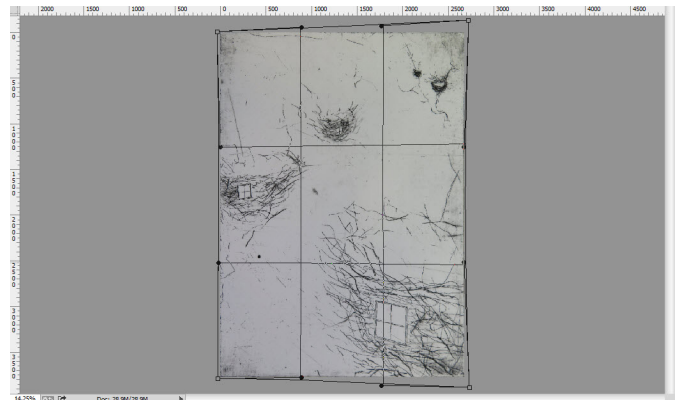

Figure 6
- Drag the corners of the image in — see how they bend to correct the lens curvature; play around to get it lined up with the edge as closely as you can. (Figure 6)